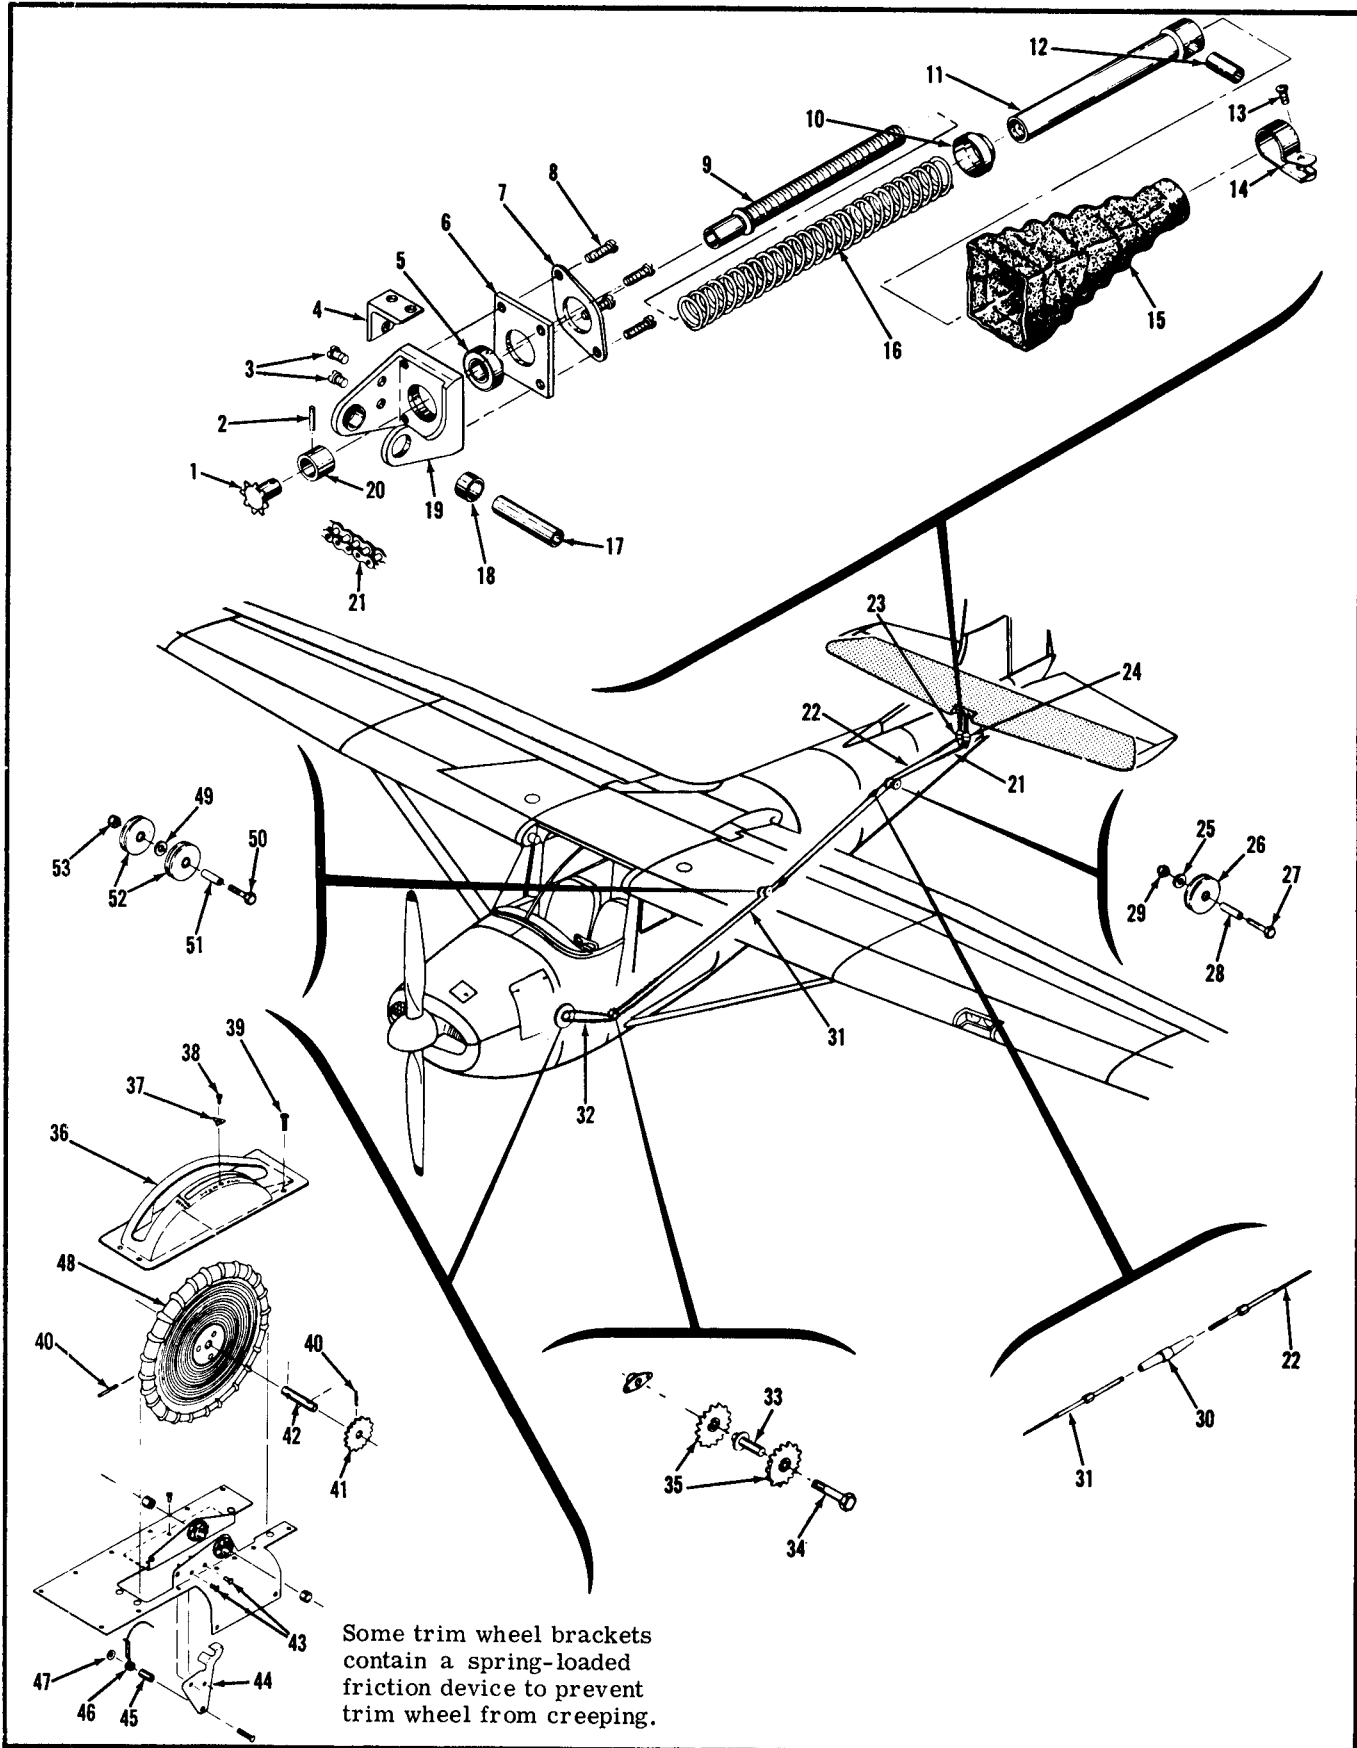
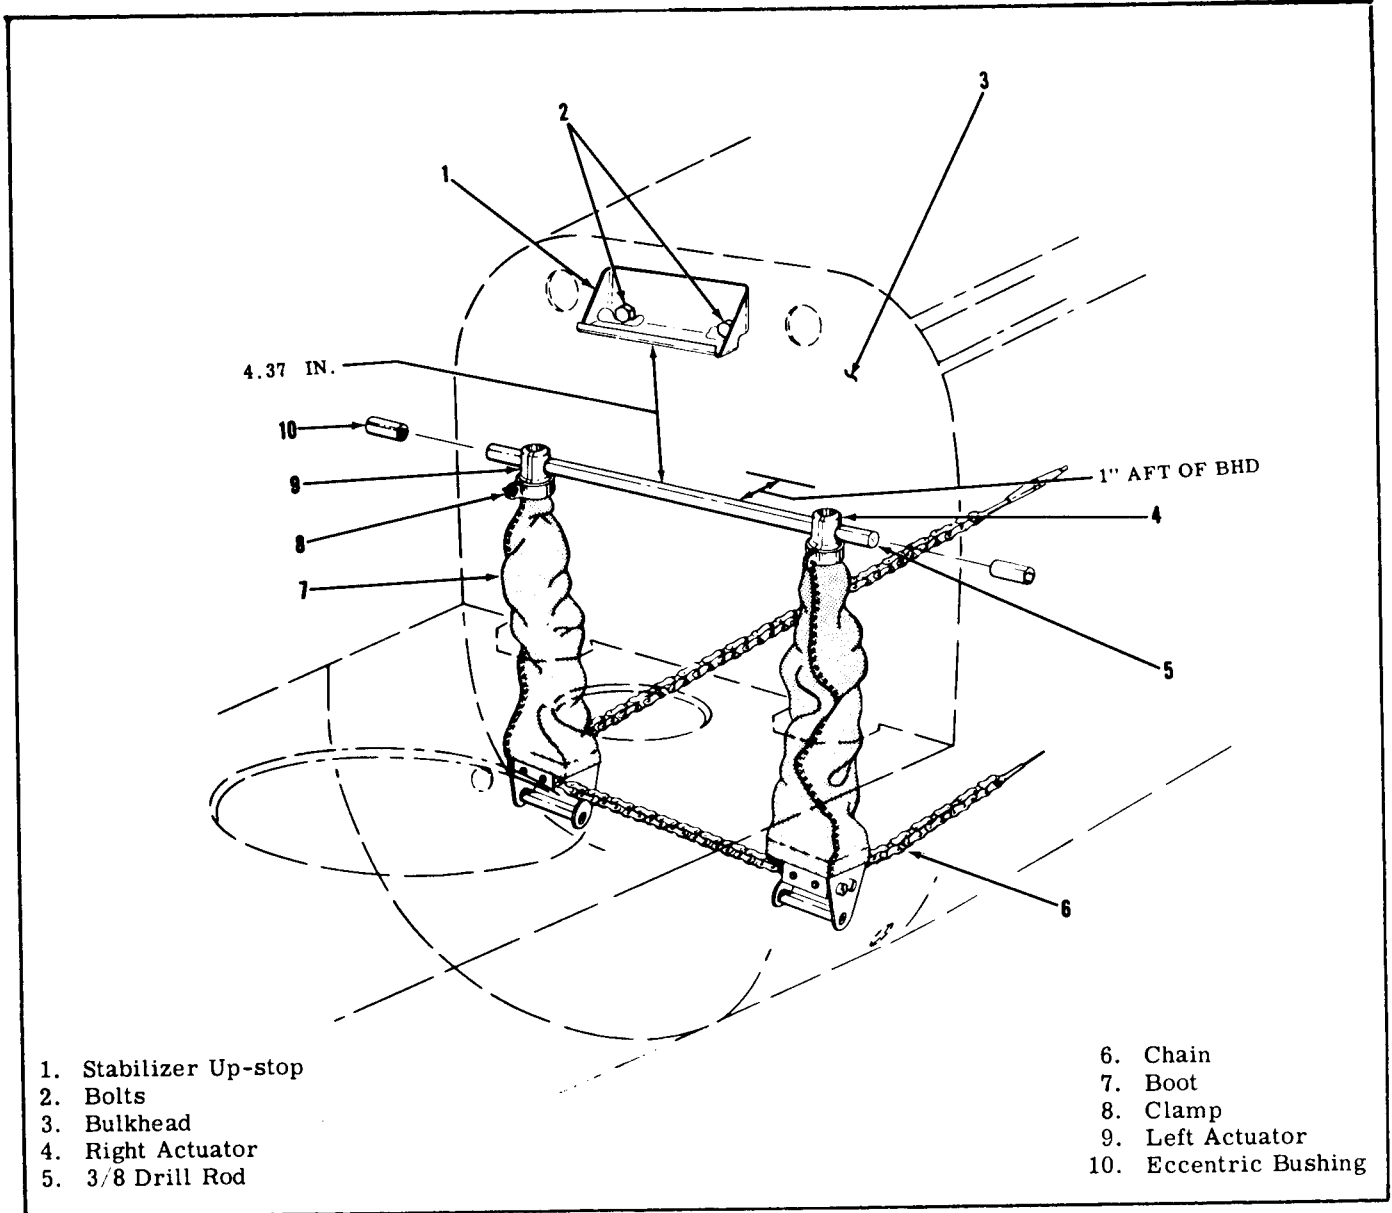

Figure 11-3. Stabilizer Control System
Figure 11-5. Rigging the Stabilizer Actuators
## References for Figure 11-3.
**11-5. REPLACEMENT OF STABILIZER ACTUATOR AND CONTROL CABLE. (See figure 11-3.)****NOTE**
n. Install spacer (18) in bushings (19) of hinge assembly (20) and wire in place to prevent loss.
**11-10. RIGGING THE STABILIZER CONTROL SYSTEM. (See figure 11-5.)**
c. Rotate stabilizer trim wheel to full forward position. Check that indicator pointer is at NOSE DOWN position. Readjust chain on sprockets until there are two chain links aft of the right hand sprocket (35, figure 11-3).
e. Use two bolts (2) to position stop bracket (1) on bulkhead.
f. Manually rotate the barrel nuts of the actuators (7) to attain the 4.37 inch measurement specified in figure 11-5. Insert a 3/8 drill rod through the tops of the actuators to check this measurement and to make sure that the jacks are adjusted to the same height.